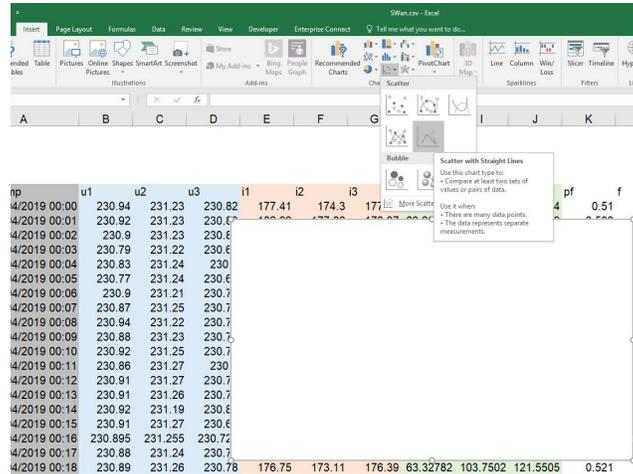

Figure 12: Showing an option of inserting Scatter Chart with straight line in excel
- Gaps and data can also be visualise by drawing the graph of the measured data. Graph can be drawn in several ways. One is to go to insert > Charts > Scatter Chart with straight line, as shown in Figure 12.